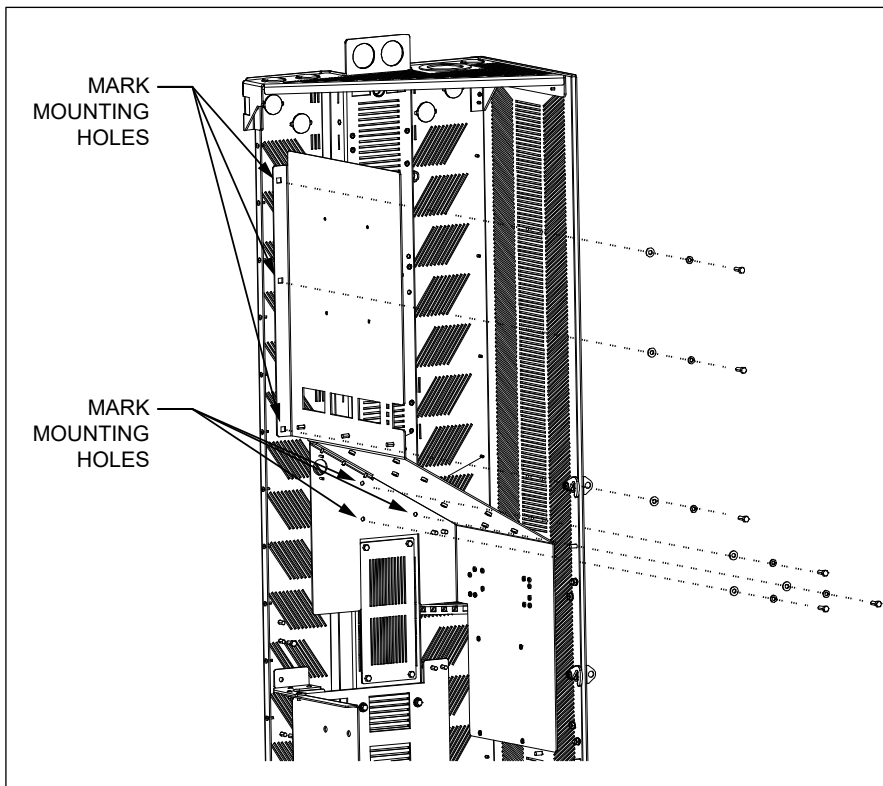

Figure 14 Install Large Heat Deflector Panel
1. Position the large heat deflector panel as shown in Figure 14.
2. Mark the locations of the six holes indicated in Figure 14